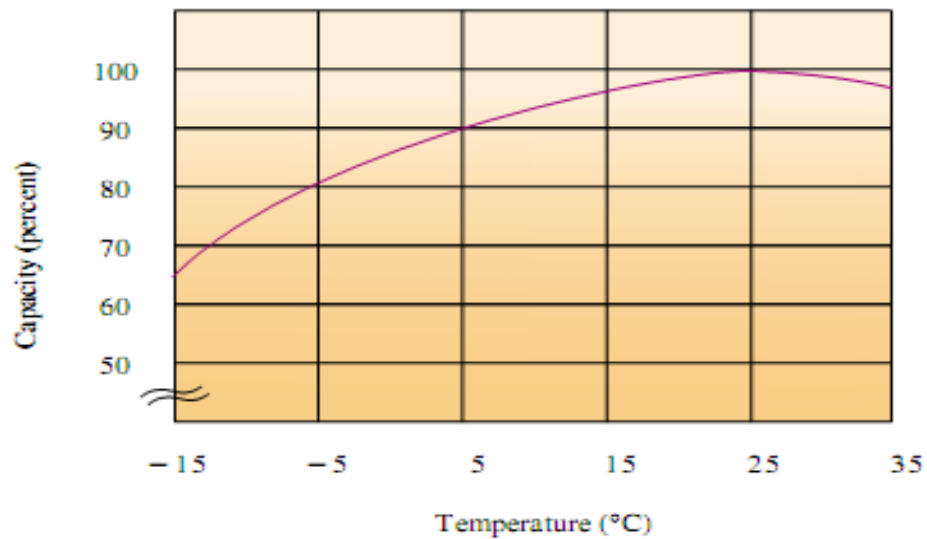

FIGURE 2-14 Typical variation of capacity versus temperature for a Ni-Cad battery.
The capacity of batteries is not a fixed value as suggested above but is affected by discharge rates, operating schedules, temperature, and other factors. At best, therefore, capacity is an estimate of expected life under certain conditions. Table 2-1 illustrates approximate service capacities for several sizes of carbon-zinc batteries at three values of current drain at 21°C. Under the conditions listed, the AA cell has a capacity of (3 mA)(450 h) = 1350 mAh at a drain of 3 mA, but its capacity decreases to (30 mA)(32 h) = 960 mAh at a drain of 30 mA. Figure 2-14 shows a typical variation of capacity of a Ni-Cad battery with changes in temperature.
**EXAMPLE 2-4** Assume the battery of Figure 2-14 has a capacity of 240 Ah at 25°C. What is its capacity at -15°C?